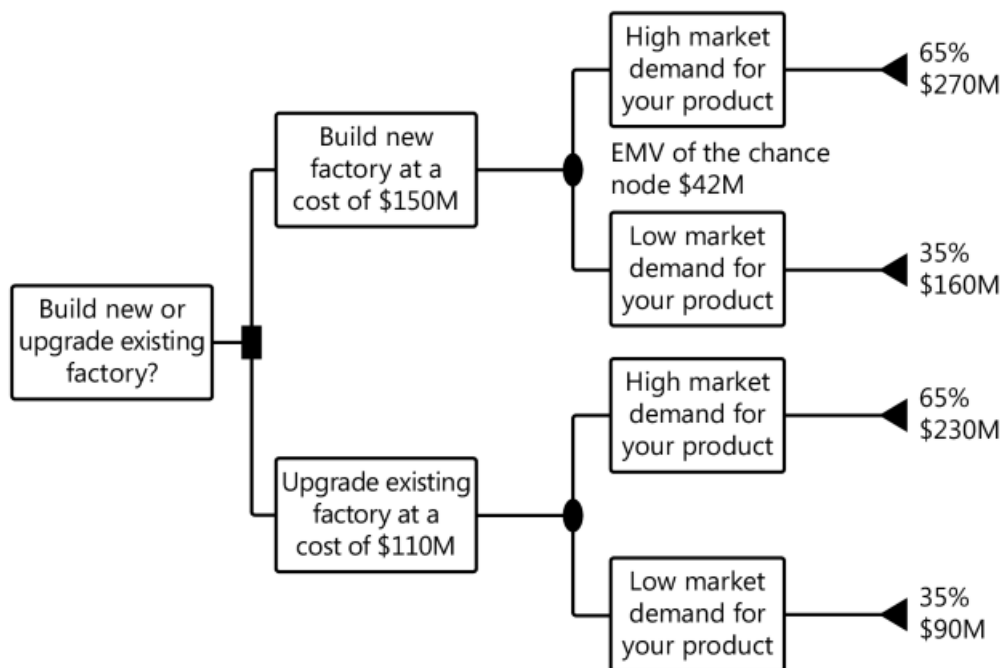

FIGURE 9-9 A decision tree showing the expected monetary value of a new factory or an upgrade to an existing factory.
3. Consider the decision tree shown in Figure 9-9 outlining a choice about whether to build a new factory or upgrade an existing factory to take advantage of increased demand for your product. Using expected monetary value analysis, what is the best decision to make?